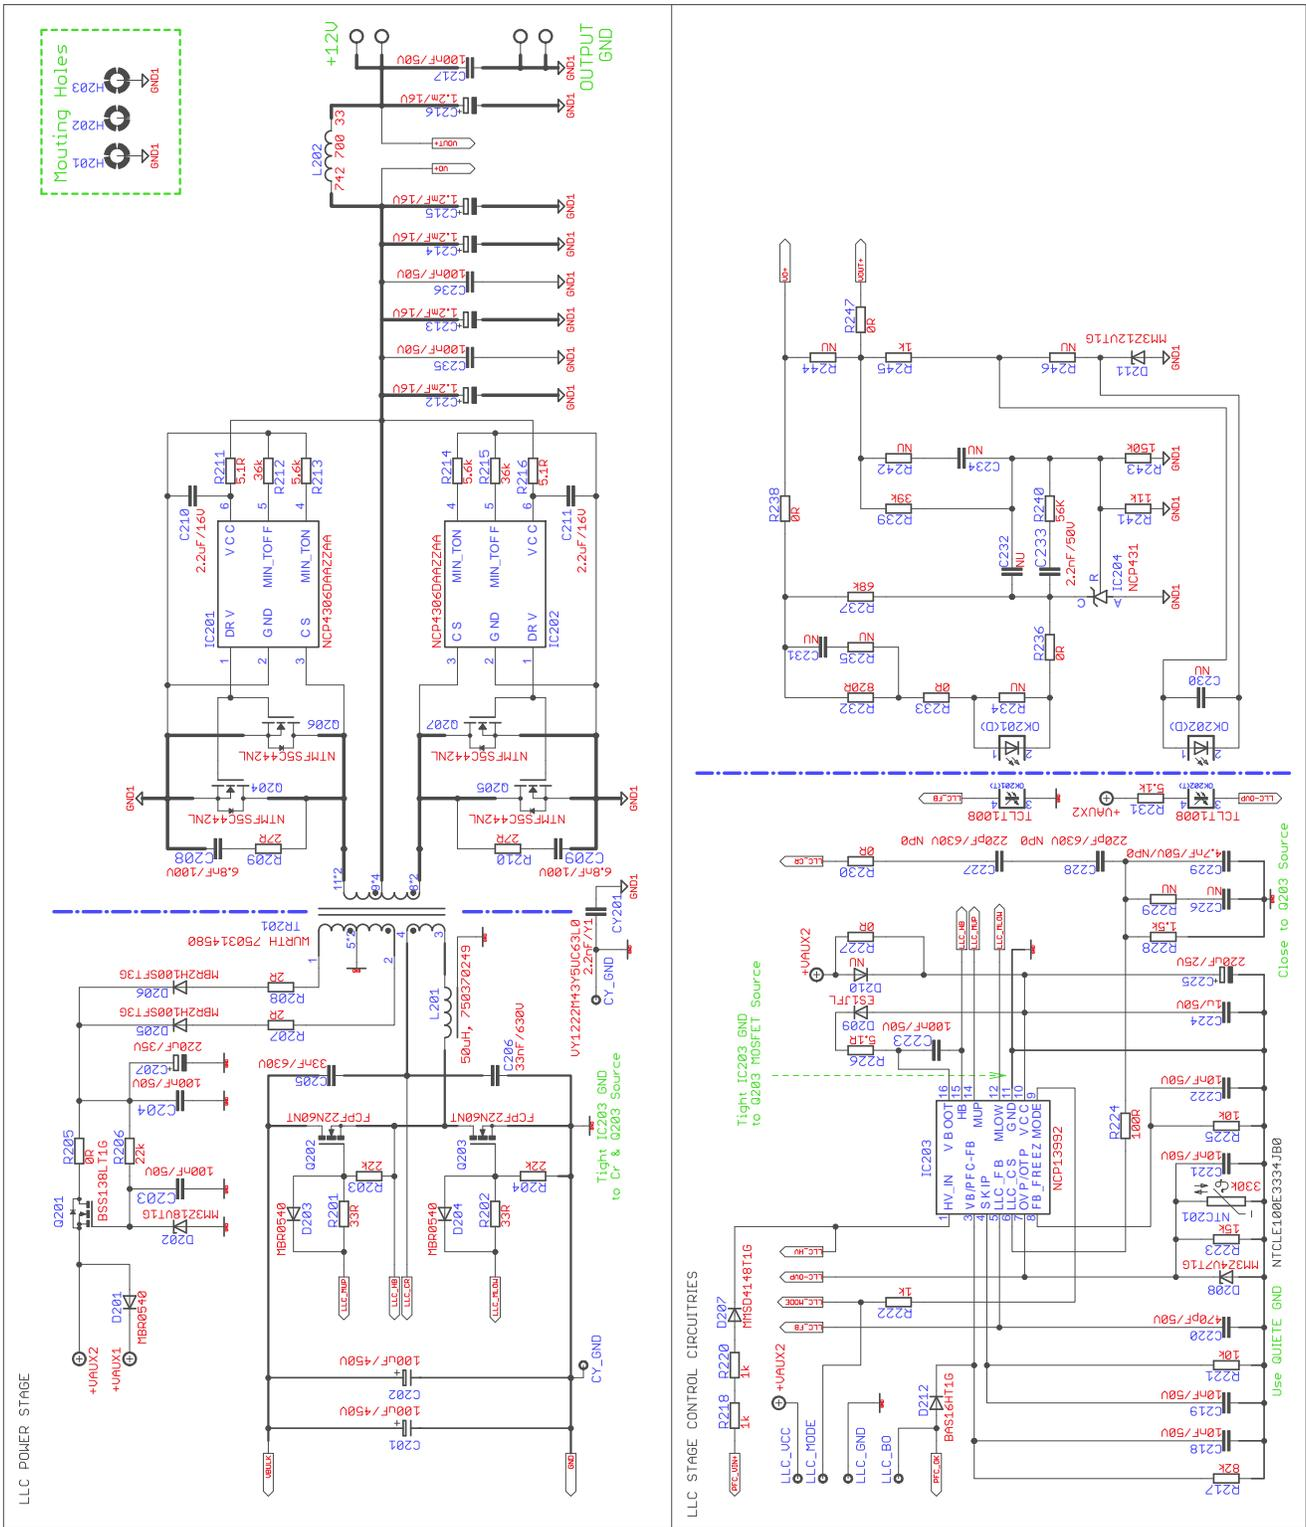

Figure 3. AOI Evaluation Board Schematic – LLC Stage
Entire LLC power stage is displayed in Figure 3. Power stage at primary side of LLC converter is composed of these devices: MOSFETs Q202, Q203, external resonant inductor L201, transformer TR201 and resonant capacitors C205 and C206. The IC203 NCP13992, LLC controller senses primary current indirectly, via resonant capacitor voltage, which is divided down by a capacitive divider, using capacitors C227–C228 and C229. The capacitive divider has to be optimally loaded and in the same time assure fast signal stabilization after application startup. This is achieved by resistor R228. Scaled signal from CS divider passes through resistor R224 which limits maximum current that can flow into the LLC\_CS pin. The FB optocoupler OK201 is connected to the LLC\_FB pin and defines converter output voltage by pulling down this pin when lower output power is needed. Capacitor C220 forms high frequency pole in FB loop characteristics and helps to eliminate eventual noise that could be coupled to the FB pin by parasitic coupling paths. The VB/PFC–FB pin allows LLC converter operation once input level is approximately above 1.1 V. VB/PFC–FB signal is provided by PFC controller NCP1618, which sources current from PFC–OK pin as aforementioned. VB/PFC–FB pin voltage is filtered by C218. The Skip/REM pin of the NCP13992 is used for skip threshold adjustment. Resistor R221 is used for this purpose together with noise filtering capacitor C219. The over-voltage and over-temperature protections are implemented via OVP/OTP pin by using resistor R223, temperature dependent resistor NTC201, Zener-diode D208, filtering capacitor C221 and optocoupler OK202. Simple OVP detector is located on the secondary side and it's made of resistor R245, Zener-diode D211 OK202 optocoupler diode. The FB\_FREEZE pin (8) defines minimum internal feedback voltage (lower saturation level), which influences maximum switching frequency. Resistor R225 sets FB freeze level and C222 decouples noise. The PFC stand-by mode (or PFC soft-skip) is activated by MODE pin (9), which goes high during LLC stage switching and stays low during idle mode– as described in PFC section.